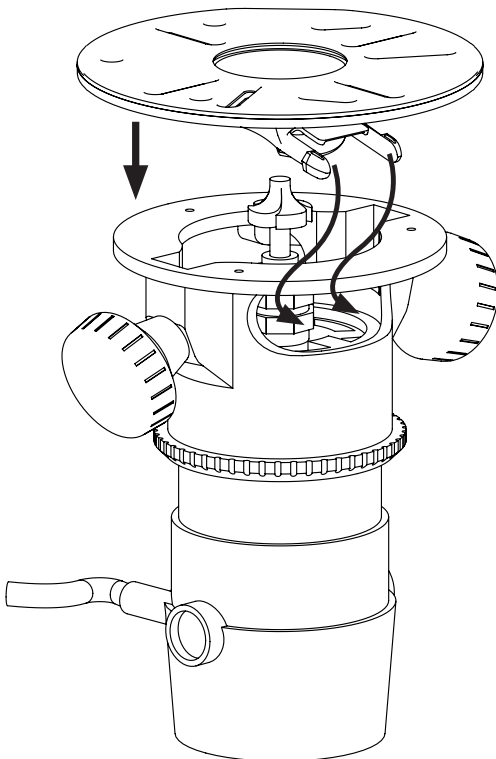

Fig. 2
3. Place the router hood onto the router with the dome going inside the chamber of the router (Fig. 2). The Oneida Air Systems logo and warning label should appear legibly.